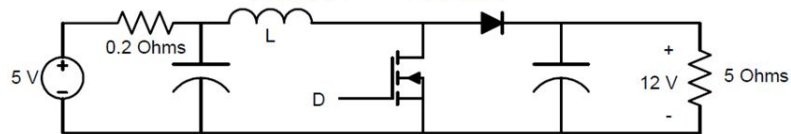

Figure 3.1 Boost converter
5. Figure 3.1 shows a boost (up) converter supplying 12 V to a load of 5 Ω from a 5 V source having an internal resistance of 0.2 Ω. Determine the duty ratio D at which the converter operates. (You may neglect semiconductor device drops in your calculations.)